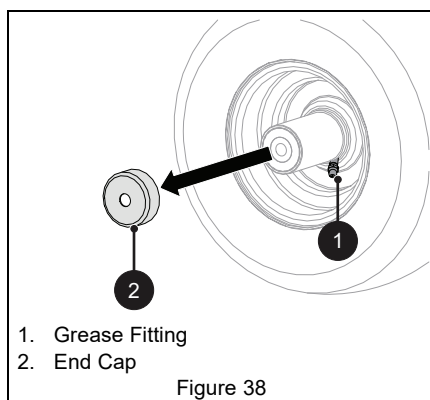

Figure 38
3. Remove wheel from front fork. See Figure 38.